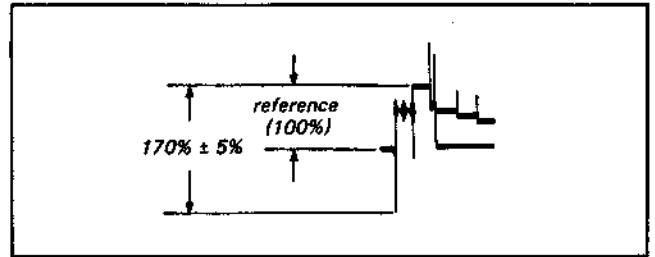

Fig. 4-4-17. Dark clip adjustment
- (1) Supply the VTR with the colour bar signal and set up the E-E mode.
- (2) Connect the oscilloscope to collector of Q34.
- (3) Adjust RV9 so that the signal tip (dark peak) is $170\% \pm 5\%$. (See Fig. 4-4-17.)